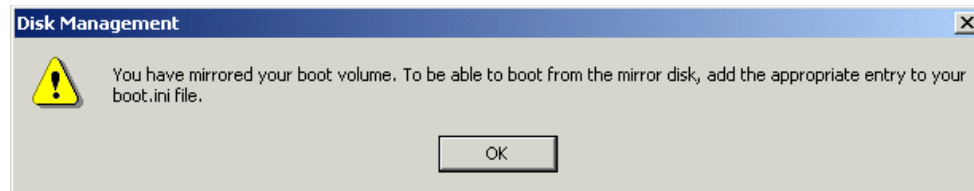

Figure 3-6 Setup of mirroring finished
12. When the mirror has started, you will get a response similar to the one shown in Figure 3-6.